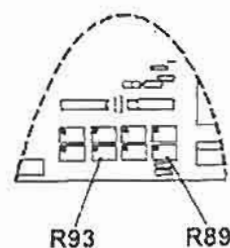

Figure 3-45. CUT power calibration.
(5) Set "CUT POWER" to 300 watts by depressing the up ( $\Delta$ ) keyboard switch until 300 shows in the center digital display.
(6) Adjust resistor R93 to approximately the midpoint and turn resistor R89 fully clockwise (fig 3-45).
(7) Depress the "CUT" pedal on the monopolar footswitch.
(8) Observe the wattmeter and adjust resistor R93 until the wattmeter indicates 300. Release the "CUT" pedal.
(9) Change the wattmeter load to 100 ohms.
(10) Turn resistor R89 counterclockwise to its midpoint.
(11) Depress the "CUT" pedal on the monopolar footswitch.
(12) Observe the wattmeter and adjust resistor R89 until the wattmeter indicates  $260 \pm 40$ . Release the pedal.
(13) Depress the white "STDBY" keyboard switch to return the ES apparatus to the standby mode.
(14) Place a small dab of sealing compound on the resistor adjustment screws to lock them at their new settings.
(15) Remove the wattmeter.